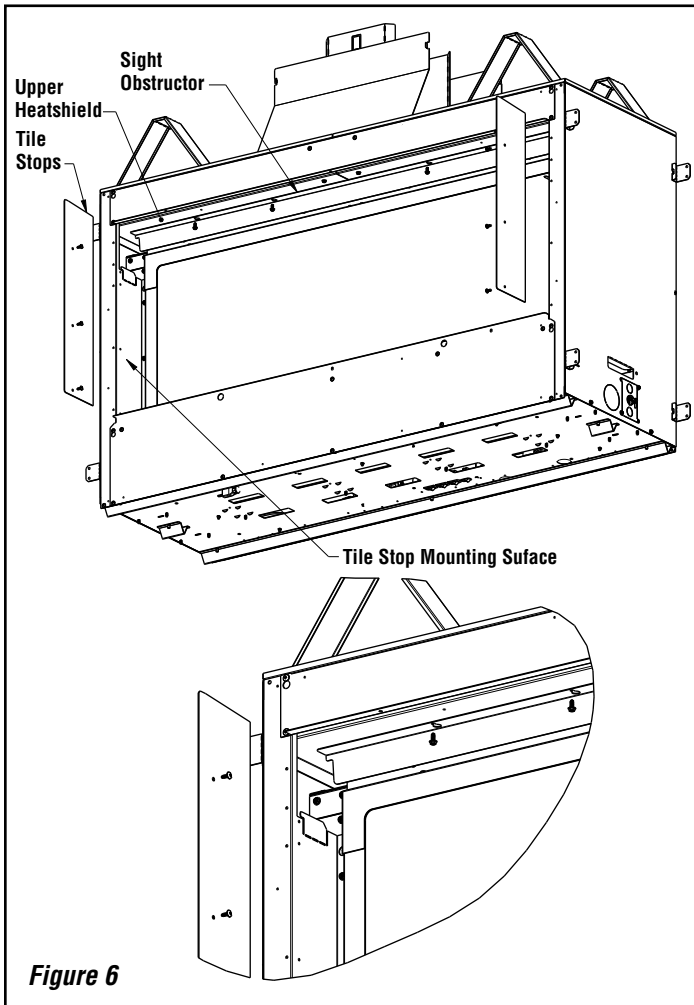

Figure 6
7. Install the Sight Obstructor to the upper heatshield just above the door assembly using four (4) hex head screws. It is keyhole slotted so the mounting screws may be pre-installed loosely, the obstructor can be placed on them, and then the screws can be tightened (see **Figure 6**).
8. Using the supplied phillips head screws, fasten the Tile Stops to the Tile Stop Mounting Surfaces (see **Figure 6**).